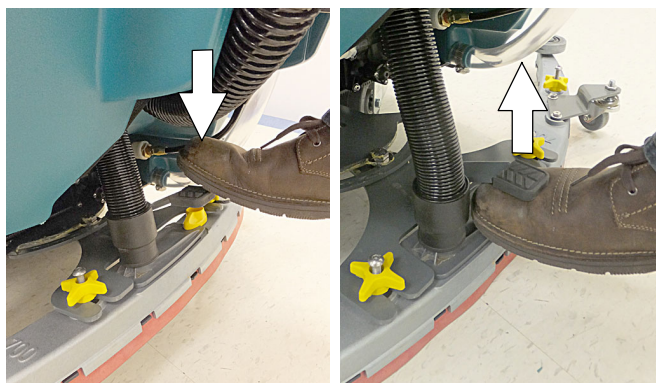

FIG. 67
4. Lower the squeegee assembly to floor by stepping on foot pedal (Figure 67). To raise squeegee assembly, place foot under foot pedal and lift. The vacuum motor will automatically start when squeegee is lowered to floor.